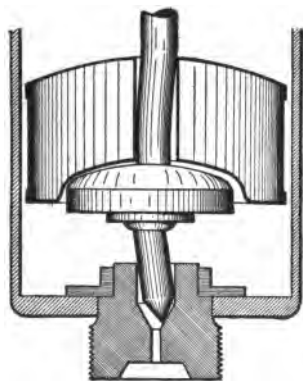

Fig. 21. Bent Needle Valve
**Bent Needle Valve Stem.** To attend to this sort of trouble, disconnect the priming arrangement, take the cover off of the float chamber (it usually is screwed on with a right-hand thread), and take the float out. An examination of the float, Fig. 21, will disclose whether it is at fault in any of the above-mentioned ways, all of which are comparatively easy to fix. If the float was jammed down, perhaps by priming, the act of taking it out will cure, provided that the stem of the float is not bent and the needle valve or its seat not injured. If the seat is scored it should be ground-in just like any other valve, using oil and fine emery. A fuel-soaked cork should be thrown away if another is at hand to replace it, but if not, the cork float should be moved in its position on the stem so that it sets higher in the liquid. In other words, move the cork a sufficient amount to compensate for its loss of buoyancy.